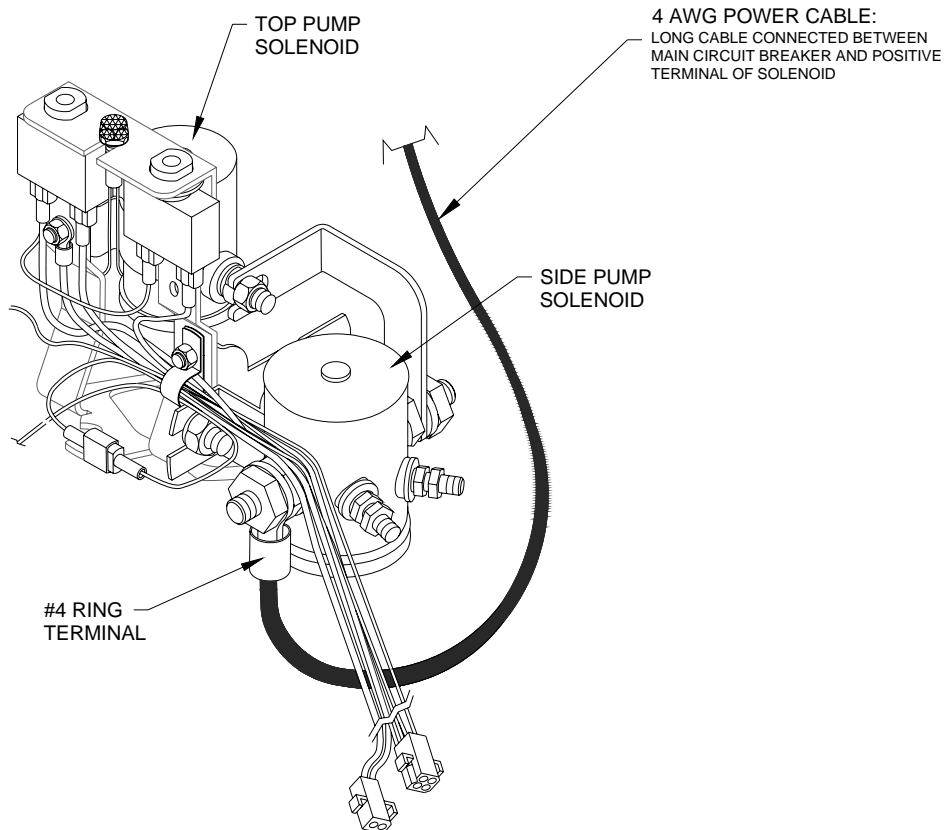

FIGURE 2-6: POWER CABLE CONNECTION TO SOLENOID
- d. Refer to **Figure 2-6**. Fasten ring terminal to side pump solenoid. Secure cable to pump assembly (wiring harness, hydraulic hose, etc) with cable ties.